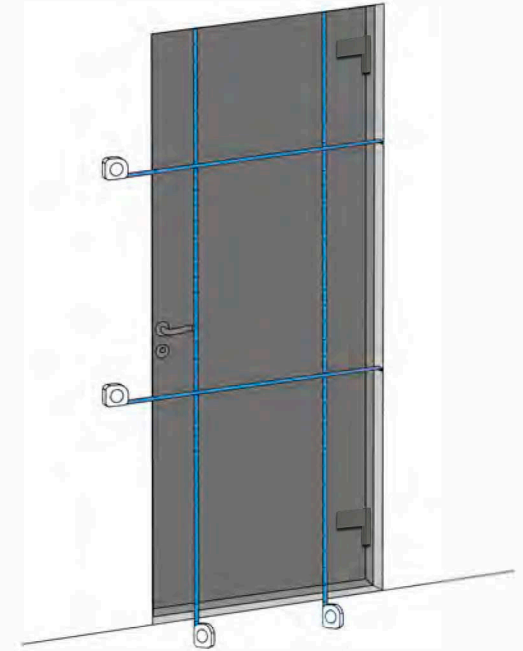

Figure 3
2.3. Using a tape measure, determine the size of the doorway in several places by width and height. The recommended size of the doorway around the entire perimeter should be up to 30 mm larger than the installation size of the door frame on each side (figure 3).